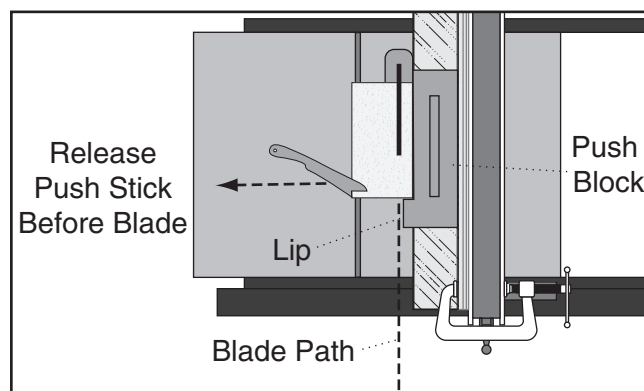

Figure 80. Ripping with push block.
6. Guide the workpiece the rest of the way through the cut with the push block, as shown in **Figure 80**.